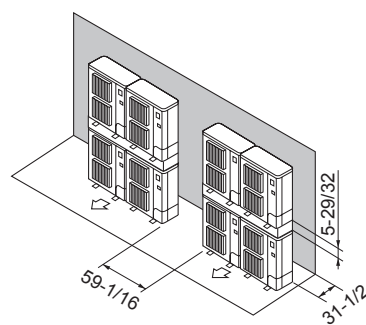

Fig. 2-18
⑦ Stacked unit arrangement (Fig. 2-18)